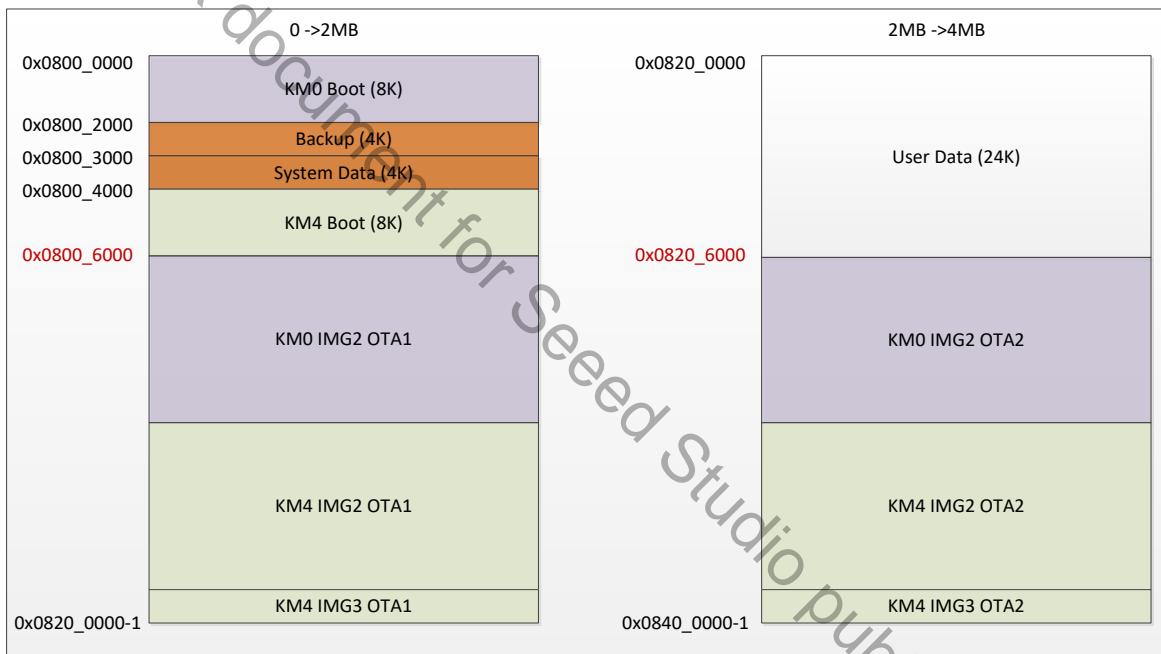

Fig 9-4 4M Flash program layout example
For 4M Flash, an example of Flash layout is illustrated in Fig 9-4. In this example, 2024K Flash size can be used for KM0 & KM2 image, and you can modify the layout according to your actual conditions. Because bootloader will be called by ROM code, the address of bootloader cannot be changed. Other addresses except bootloader can all be changed by user, but before you change these addresses, make sure that you are familiar with Ameba-D system and SDK.
- Modify **OTA_Region** in `rtl8721d_bootcfg.h`, change OTA2 region start address according to your actual Flash layout. When using 4M Flash program layout example as shown in Fig 9-4, OTA region should be modified as below:
- Modify OTA address definition in `rtl8721d_ota.h`, redefine **LS_IMG2_OTA2_ADDR** macro according to your actual Flash layout. When using 4M Flash program layout example as shown in Fig 9-4, OTA address should be modified as below:
- For BT FTL start address, re-define **ftl_phy_page_start_addr** variable in `rtl8721dhp_intfcfg.c`, note that SPI FLASH address base `0x0800_0000` is subtracted when calculating `ftl_phy_page_start_addr` variable, and `ftl_phy_page` will consume $3*4=12$ KB Flash starting from `ftl_phy_page_start_addr`. When using 4M Flash program layout example as shown in Fig 9-4, BT FTL start address should be modified as below:
- For Wi-Fi fast connect profile address, redefine **FAST_RECONNECT_DATA** macro in `platform_opts.h`, and SPI FLASH address base `0x0800_0000` is subtracted when calculating `FAST_RECONNECT_DATA` macro. Note that Wi-Fi fast connect profile address should not recover the 12KB Flash starting from `ftl_phy_page_start_addr`, as this region is reserved for BT FTL. When using 4M Flash program layout example as shown in Fig 9-4, Wi-Fi fast connect profile address should be set to `0x202000+0x3000=0x205000`.